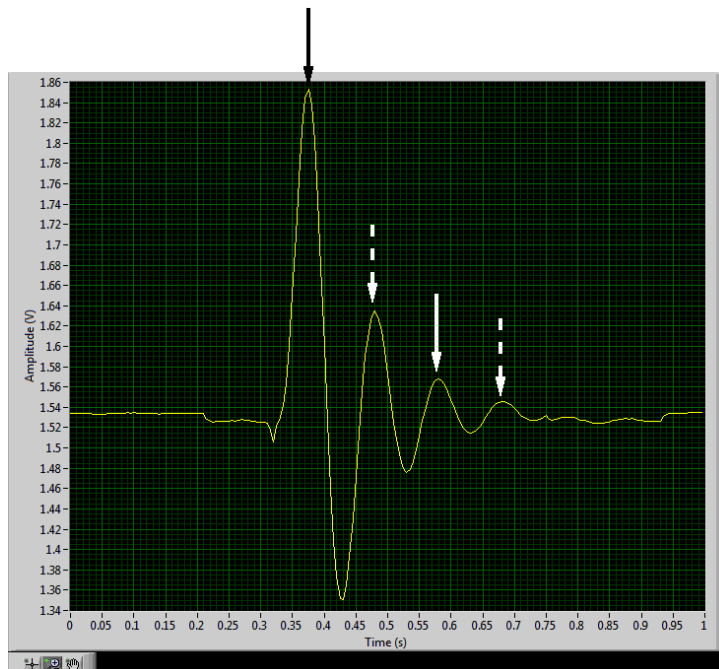

Figure 2.3: Second-Order System Impulse Response
- (a) The oscillations in Figure 2.3 occur at the damped frequency of this system (ω_d). Is ω_d greater than or less than the natural frequency (ω_n) of this system given this impulse response? Why? [5 points]
- (c) Draw the block diagram for a circuit that powers an LED with a 0.7 V threshold voltage on every **other** positive peak of the impulse response signal above 1.54 V (two solid arrows in Figure 2.3) (i.e., use the impulse response as the input signal into your circuit). The LED can remain on until the next temporal positive peak occurs (dashed arrows in Figure 2.3). Be as detailed as possible in your block diagram. [15 points]